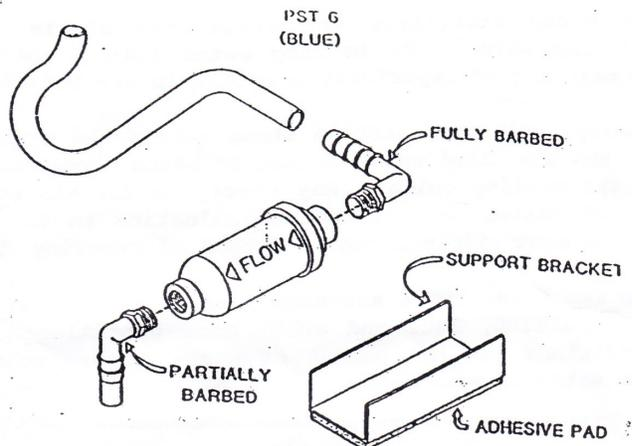

FIGURE 2
1. Assemble the filter by screwing the partially barbed fitting into the output end of the filter (the end pointed to by FLOW arrow) as shown in Figure 2.